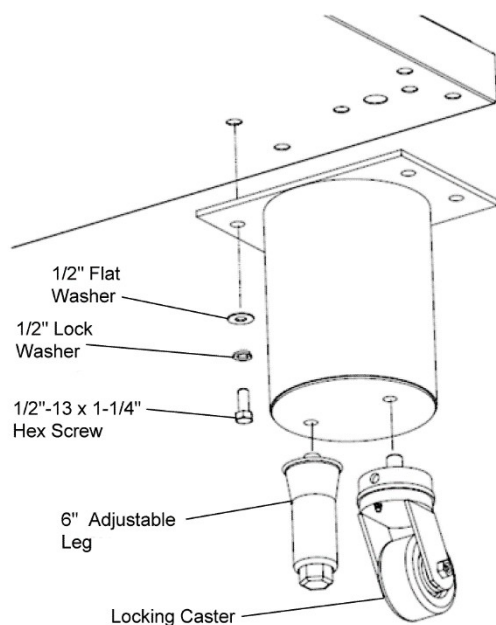

Figure 16. Leg Extension and Caster Installation
1. Install the four leg extensions onto the base pad using the 1/2"-13 x 1-1/4" hex screws, 1/2" flat washers and 1/2" lock washers supplied in the base pad kit. See Figure 16. Check that the orientation of the adjustable 6" leg holes in the leg bottom is consistent (all to the inside or all to the outside). The adjustable leg mounting hole is closer to the edge of the leg than the caster mounting hole. Install the spring clip for the oven restraining cable to the hole in the bottom middle of the base pad. This clip will attach to the restraint cable that keeps the oven from moving too far when installed on casters.